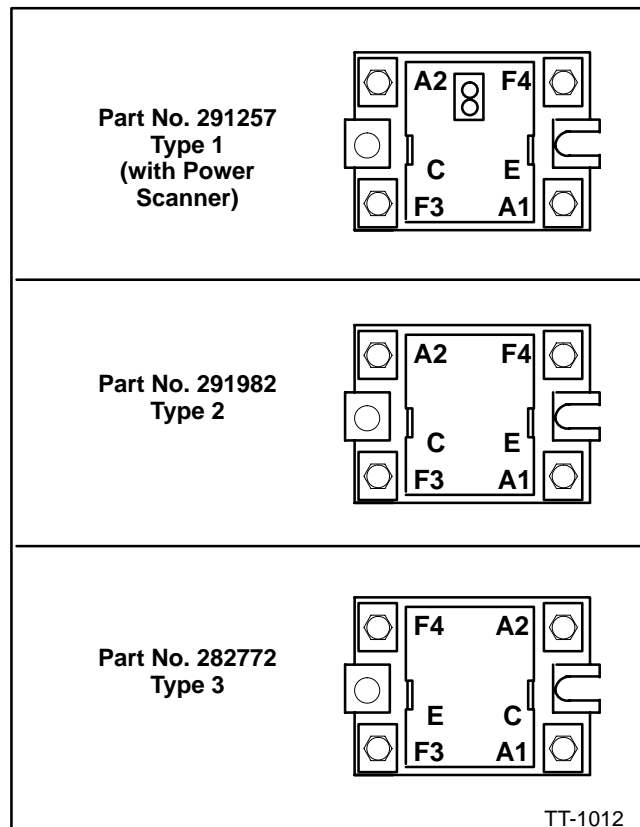

Figure 7. FR™ Activator Variations
Terminals E and C were reversed on earlier versions of the FR™ activator. See Figure 7.
Earlier versions of the FR™ activator had terminals F4 and A2 reversed. See Figure 7. Connect leads to terminal with the same terminal designation regardless of the terminal position.
8. Before removing FR™ activator compare terminals with new SCR assembly. The leads may not reach SCR assembly terminals if mounted incorrectly. See Figure 7 for variations of the FR™ activator.